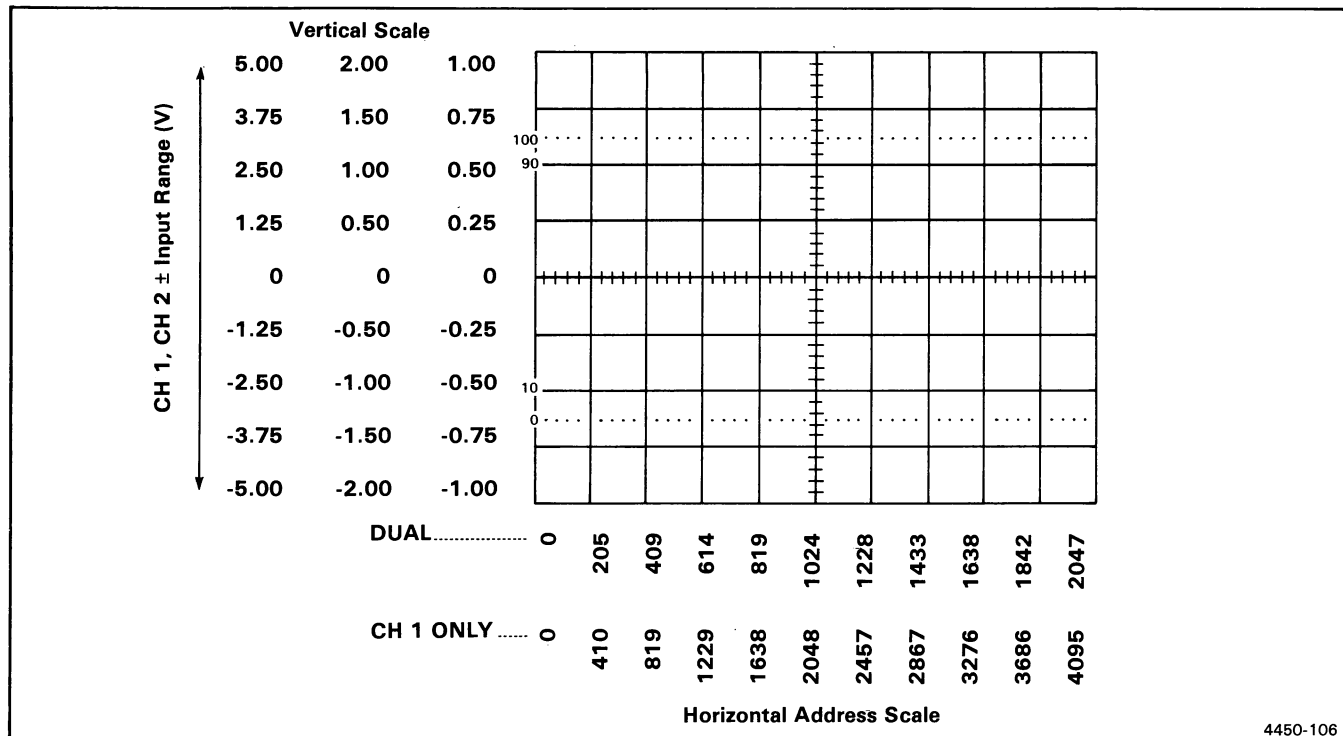

Figure 1-5A. Scale readings on monitor with full-scale set for 8 divisions.
Connect a 10 kHz 5 volt peak-to-peak sine wave signal to the Channel 1 input. Set the 390AD input range to 2 V. Adjust the monitor vertical (Y) GAIN control so that the clipped waveform reaches from the bottom to the top of the graticule. This sets the vertical display. See Figure 1-5A.
Figure 1-5A shows scale readings for the full-scale display of the waveform on the monitor screen with Gnd level set at the center of the vertical scale.